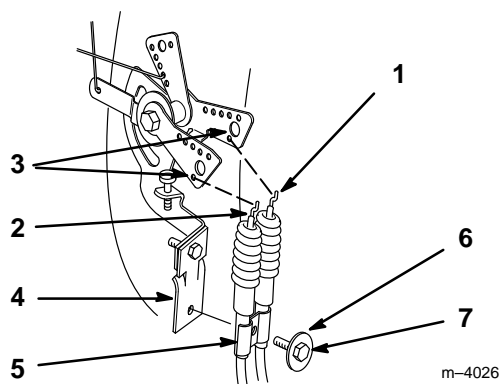

Figure 3
10. Hook cable Z ends into lower holes of engine controls as shown (Fig. 3).
11. Place cables against adapter and secure with previously removed cable clamp, washer and screw (Fig. 3).